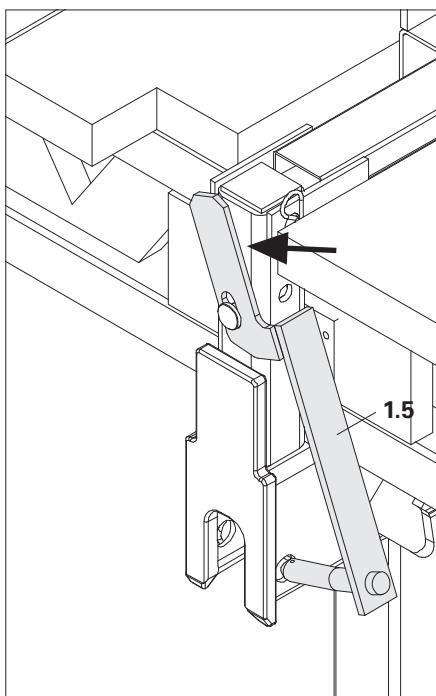

Fig. B1.20
5. Swivel securing bolt to one side. (Fig. B1.20)